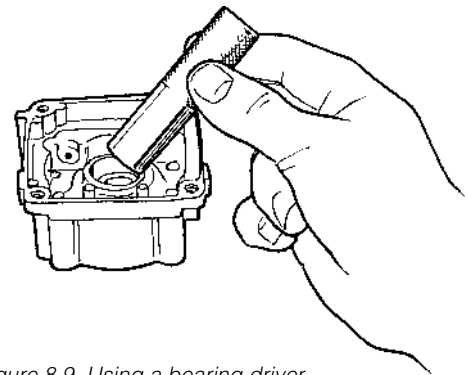

Figure 8.9 Using a bearing driver
STEP 2. Remove the bearings from each of the two crankcase halves using the appropriate bearing driver and a heavy hammer (Figure 8.9).